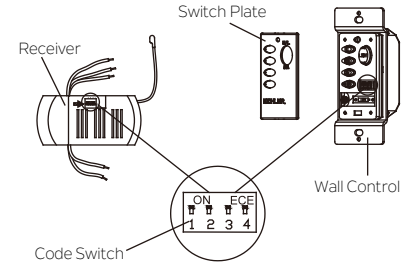

Fig. 13
Step 1. Slide the code switches on the receiver to your choice of either up or down using a small ballpoint pen (not included). (Fig. 13)
Step 2. To set the code on the wall control, use a small flat screwdriver and gently pry it apart from the top or bottom of the switch plate. Slip the code switches to the same positions as set on the receiver. (Fig.13)